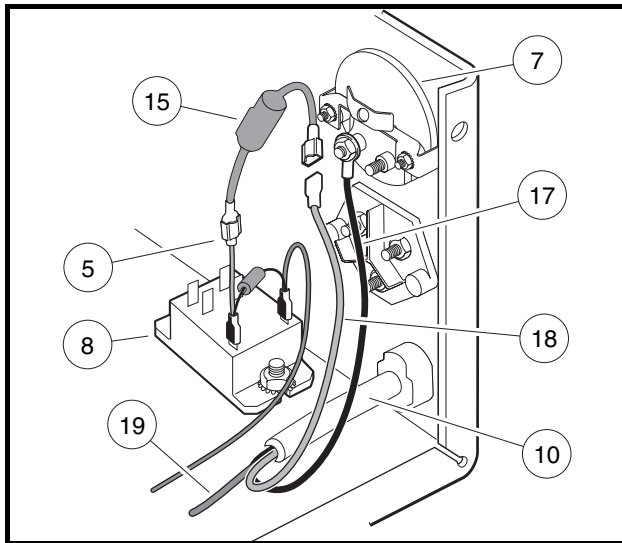

Figure 5-19 DC Cord, Relay, and Limiter
3. To check the continuity of the DC cord, disconnect the black wire (17) of the DC cord from the ammeter (**Figure 5-19, Page 5-25**).
4. Disconnect the red wire (19) of the DC cord from the heatsink.
5. Disconnect the blue wire (18) from the limiter (15), which connects to the red wire assembly that connects to the charger relay.
6. Place the clip of the continuity tester on the red wire (19) of the DC cord.
10. Move the continuity tester clip to the black wire (17) of the DC cord.
13. Move continuity test probe to the blue wire (18) of the DC cord. Check for continuity at the middle pin. The tester should indicate continuity. If tester does not indicate continuity, replace DC cord.
3. Remove the DC cord black wire (17) from the ammeter by loosening the nut. Support the terminal as the nut is loosened to prevent rotation of the connection (**Figure 5-19, Page 5-25**).
4. Remove nut attaching the red wire (19) of DC cord onto the heatsink.
5. Disconnect the DC cord blue wire (18) from the limiter (15), which connects to the red wire assembly that connects to the charger relay.
6. Remove the wire ties that secure the blue wire (18) to the black transformer wire. Note the location of the wire ties.
3. Attach the blue wire of new DC cord to the limiter (15) (**Figure 5-19, Page 5-25**).
4. Attach the black wire (17) of the new DC cord to ammeter. Install nut onto post of ammeter slightly more than finger tight. While holding the inside nut, tighten the outside nut 1/4 turn. **See following CAUTION.**